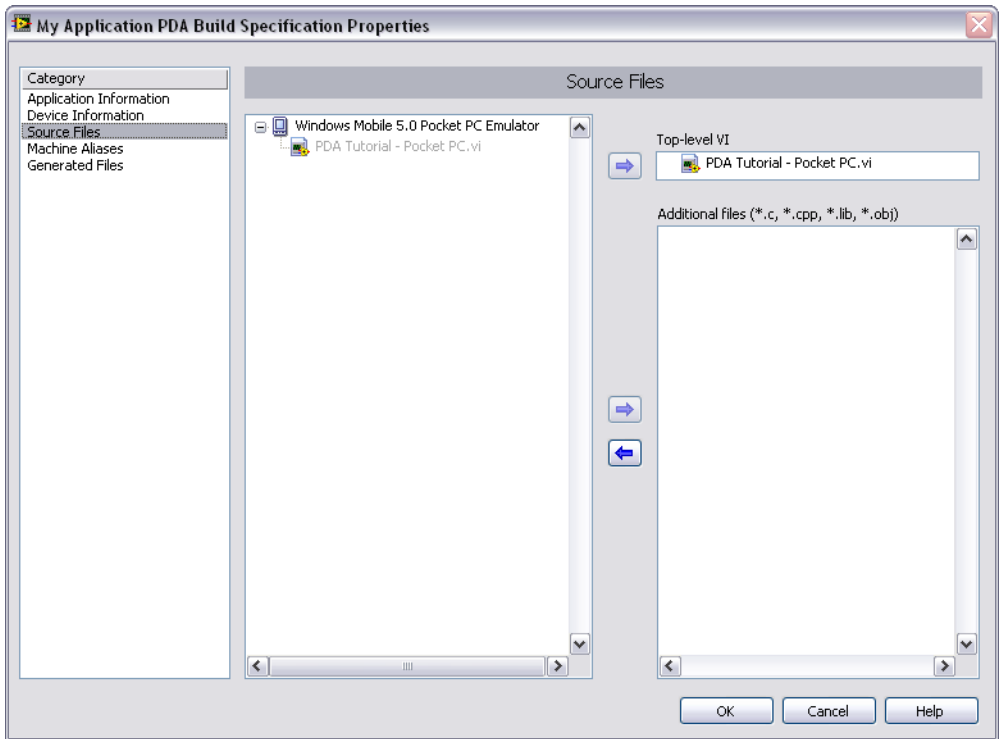

Figure 8. Selecting the Top-Level VI for the Build Specification
5. Select **Source Files** from the **Category** list and select **PDA Tutorial - Pocket PC.vi** in the source files list. Click the blue right arrow button, shown at left, to move the VI from the source files list to the **Top-level VI** text box as shown in Figure 8.